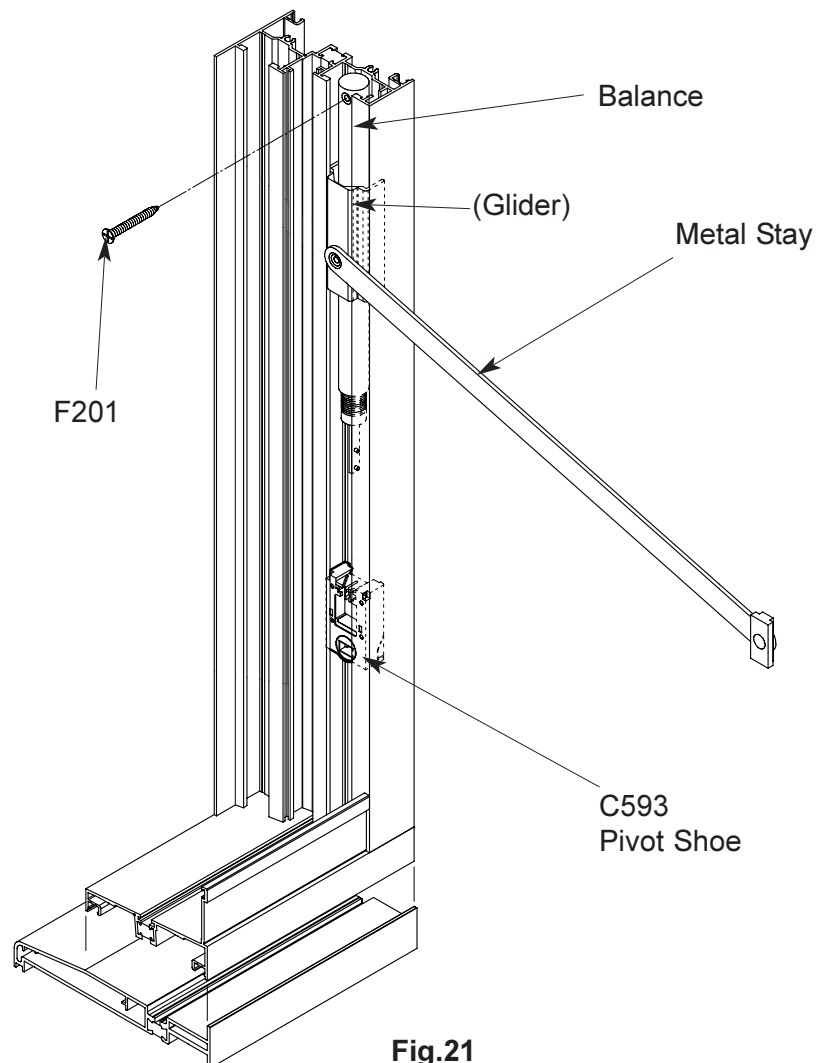

Fig.21
- Select the correct balances for each sash (on equal split windows the longer balances are for the bottom sash, on the inner jamb channel). Using the pre-drilled pilot holes, fix the balances into the jambs using No.10 x 1" Pozi C'sk screws (F201). (Fig.21)